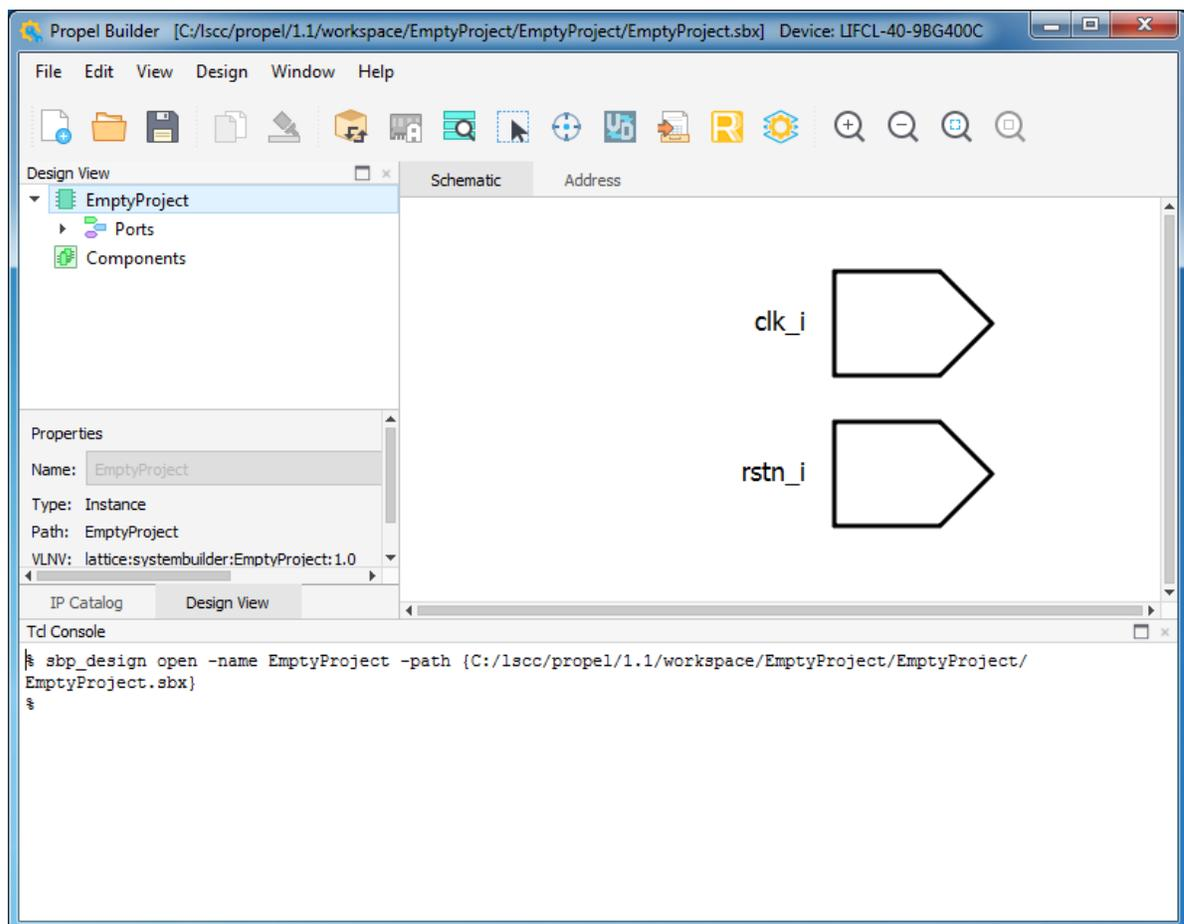

Figure 2.7. Propel Builder GUI Shows Empty Project
9. Click **Finish**. Propel Builder GUI opens (Figure 2.7).